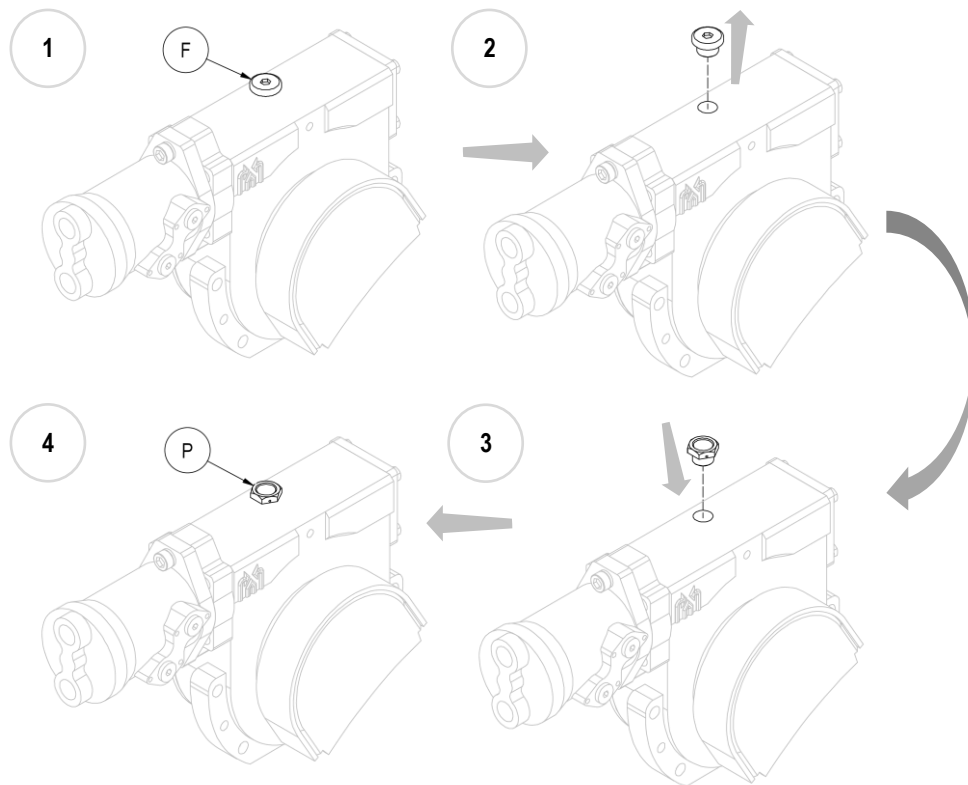

Figure 5
10. **N.B.** With the equipment mounted, replace the blind iron oil filler plug (F) with the plastic one supplied (P), which includes a breather (see *Figure 5*).